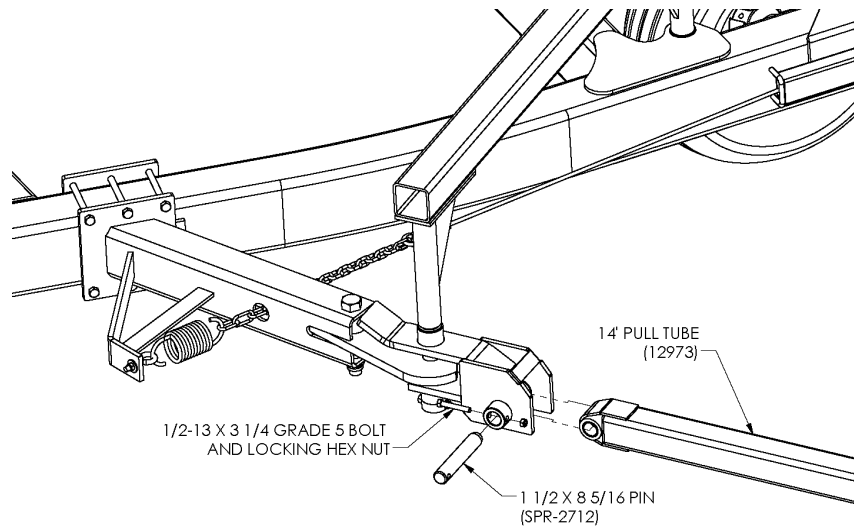

Figure 23
1. Attach the main pull tubes to the pivot brackets with the 1 1/2" x 8 5/16" pin. Refer to Figure 23